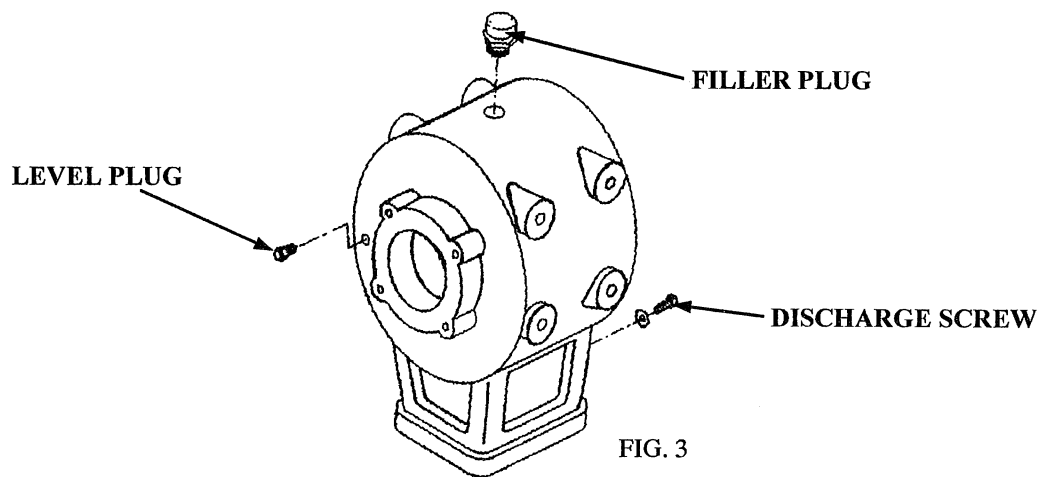

FIG. 3
- Check gearbox correct oil level. To proceed, remove the oil level plug (see fig. 3). If needed to add oil, remove the filler plug located on top of the box, and fill in until oil starts running out of the level hole.